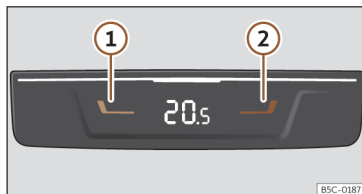

Fig. 133 In the rear part of the centre console: controls for the rear seats.
- Press buttons **1** and **2** >>> **Fig. 133** to adjust the temperature of the rear zone.